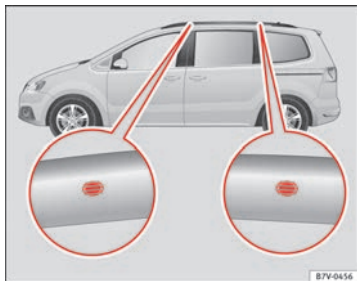

Fig. 102 Attachment points for the basic support and the roof carrier system
The position holes are located on the inner side of the rail → Fig. 102.
- The base support should only be fitted to the points indicated in the diagram → Fig. 102.